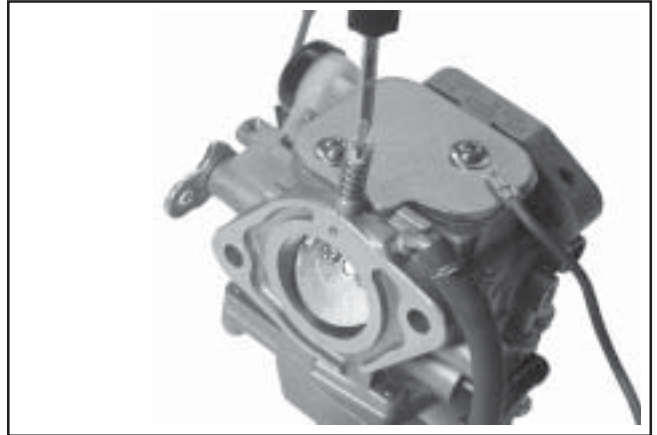

Figure 5-28. Installing Idle Fuel Adjusting Screw and Spring.
- Place the longer new spring onto the idle fuel adjusting screw and install it into the carburetor. As an initial adjustment, set to **1 turn out** from lightly seated. See Figure 5-28.